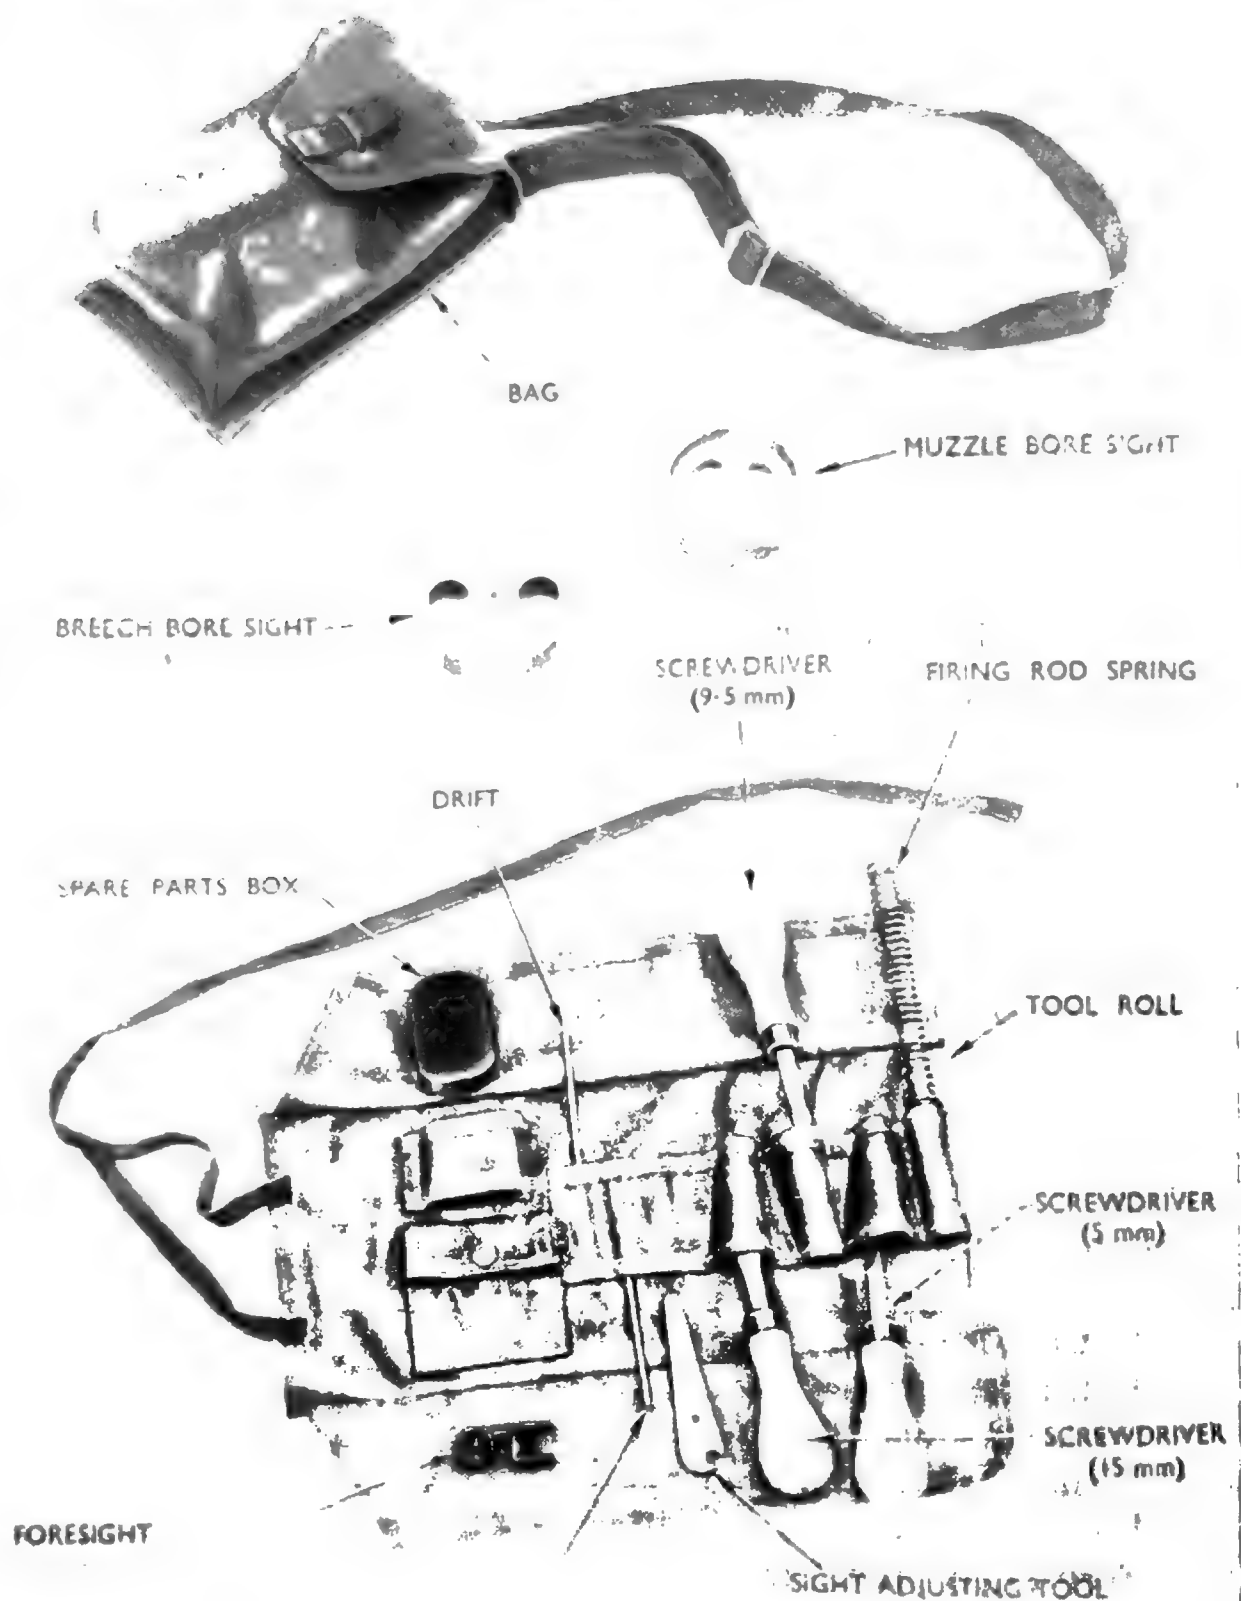

Fig 1 No. 1 Tools & Spare Parts Bag
12. Bag tools and spare parts, filled No. 1 Mk. 1 (Fig 1).